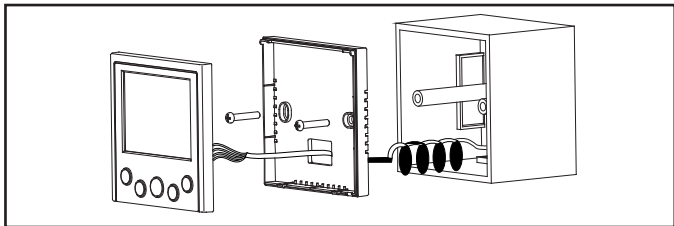

Figure 2. Installation
- Adjust the length of the two plastic spacers as needed to allow the controller to be mounted flush with the wall. **NOTE** – Be sure to provide for future maintenance by allowing enough slack in the wiring to allow the controller to be removed from the wall if needed. See figure 2.